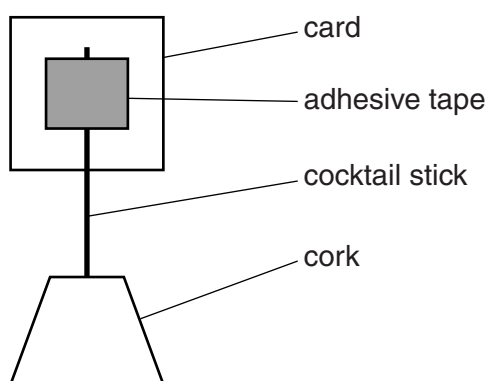

Fig. 4.1
- (i) Object, consisting of a square rigid card 15 mm × 15 mm attached to a cocktail stick or similar and mounted securely in a cork or similar support. A possible arrangement is shown in Fig. 4.1. The object must be free standing and be capable of being moved easily during the experiment. See notes 2 and 3.
- (iv) Screen. A white sheet of stiff card 10 cm × 10 cm, fixed to a wooden support is suitable as indicated in Fig. 4.1. See notes 2 and 3.